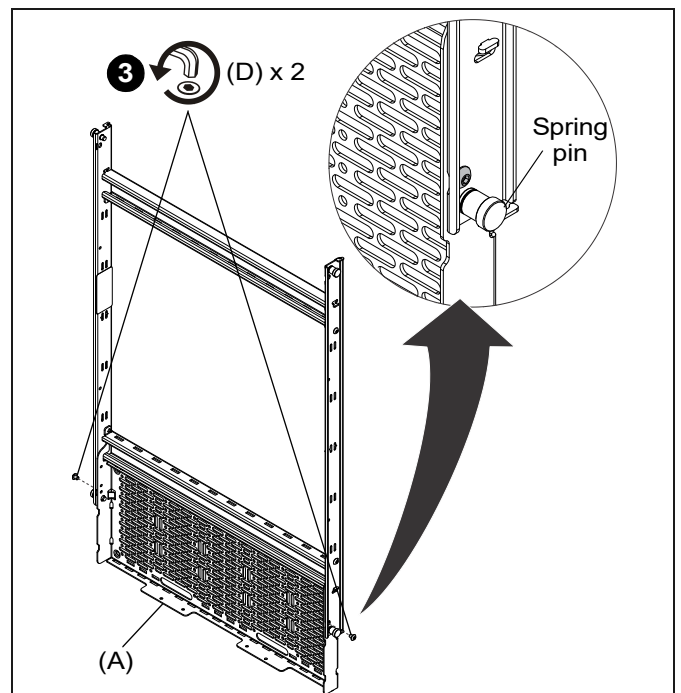

Figure 24
3. Secure the storage panel (A) to the wall rail assembly using two 10-24 x 1/2" button head screws (D). (See Figure 24)